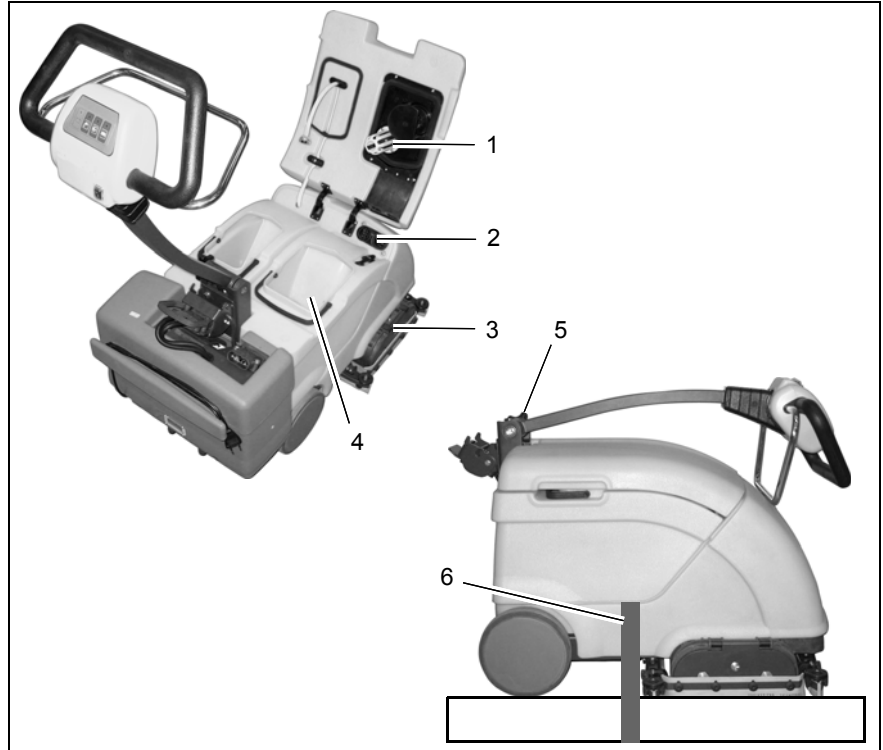

Fig.12
- Check the air intake filter (Fig. 12/1) for blockages.
- Check the sealing (Fig. 12/2) of the recovery tank.
- Check the suction hose and squeegee in the brush head (Fig. 12/3) for blockages.
- Empty the recovery tank (Fig. 12/4).
3. Loosen the adjusting knob (Fig. 12/ 5) and move the shaft to its transporting position.
4. Remove the brushes and set the supporting rollers to their working position. Lash the machine housing to the transportation device with appropriate load fixation devices(Fig. 12/6).